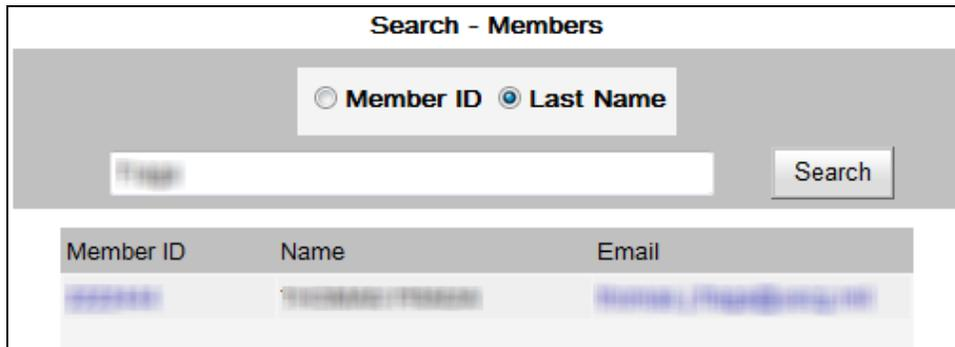
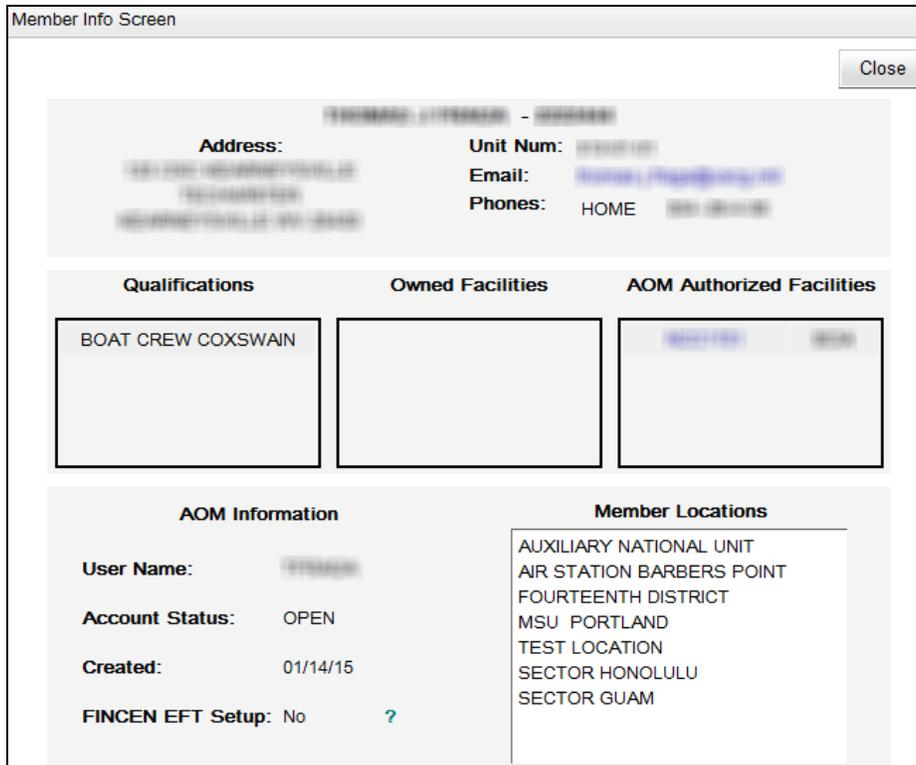

Figure 2-11 Member Search Results
Figure 2-12 Member Information Window
A **Member Information** window appears, similar to Figure 2-12. If the member is active duty, this window will not appear and there will be a message stating the member is active duty.
5. To send a message to the member, click their **Email** address in the search results similar to Figure 2-11 or in the **Member Information** window similar to Figure 2-12.
NOTE 1: Clicking the member ID beside the member name yields a **Member Information** window similar to Figure 2-12. See Section 2.2.3.1, Searching for Members, for information on searching for and contacting members.
Clicking an *Operator ID* yields a **Member Information** window similar to Figure 2-12.